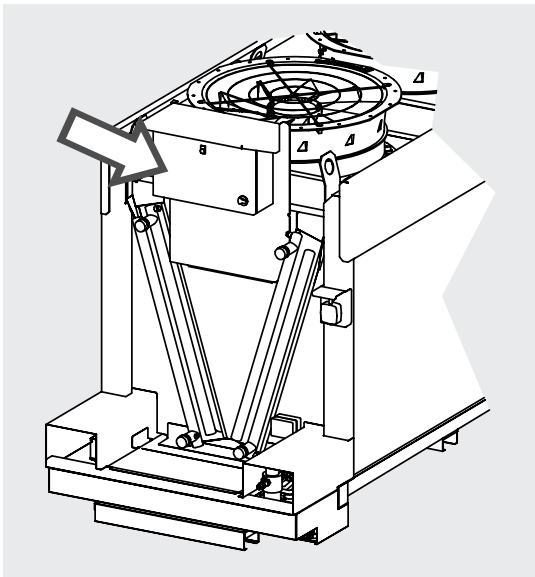

Figure 12
- 8.1 For detailed information, please refer to the switchboard wiring diagram and any other diagrams supplied with the model. See Figure 12.